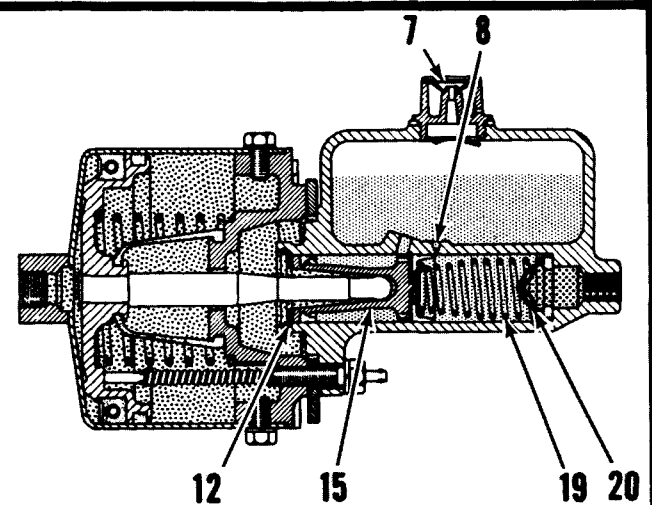

FIG. 4. BYPASS OPEN, CHECK VALVE CLOSED.
Fig. 4. When piston (15) contacts plate (12), bypass port (8) is open to the master cylinder bore. Spring (19) seats valve (20) to maintain a low residual pressure in the brake hydraulic system. Cap (7) has drilled passage to vent the master cylinder reservoir.